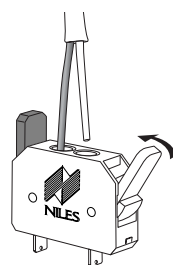

Figure 16 No-Strip Speaker Wire Terminal.
5. Insert one stripped wire fully into the black and one into the red terminal. Pay attention to the markings on the wire. Each speaker must be connected to the amplifier in the same way. If unsure, see "Speaker Phase" located on the following page. Squeeze the red and black levers until they click signifying that they have locked into the wire. Check to make sure that the knife assembly inside the no strip connector has properly pierced the wire (**See Figure 16**).